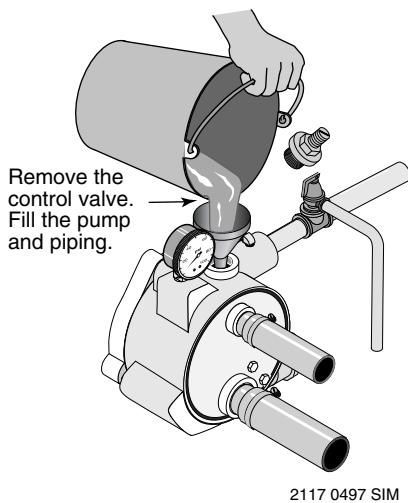

Figure 14: Fill Pump
1. Remove the control valve and fill the pump (see Figure 14). Fill all piping between the pump and the well, and make sure that all piping in the well is full. If you have also installed a priming tee in the suction piping, remove the plug from the tee and fill the suction piping.
5. When the pressure has built up and stabilized at about 40 PSI (Models 2805/6/10E) or 50 PSI (Model 2815E), slowly open the control valve (see Figure 14) and let the pressure drop until the pressure gauge needle starts to flutter. When the needle flutters, close the valve just enough to stop the flutter. Your pump is now operating at its most efficient point.